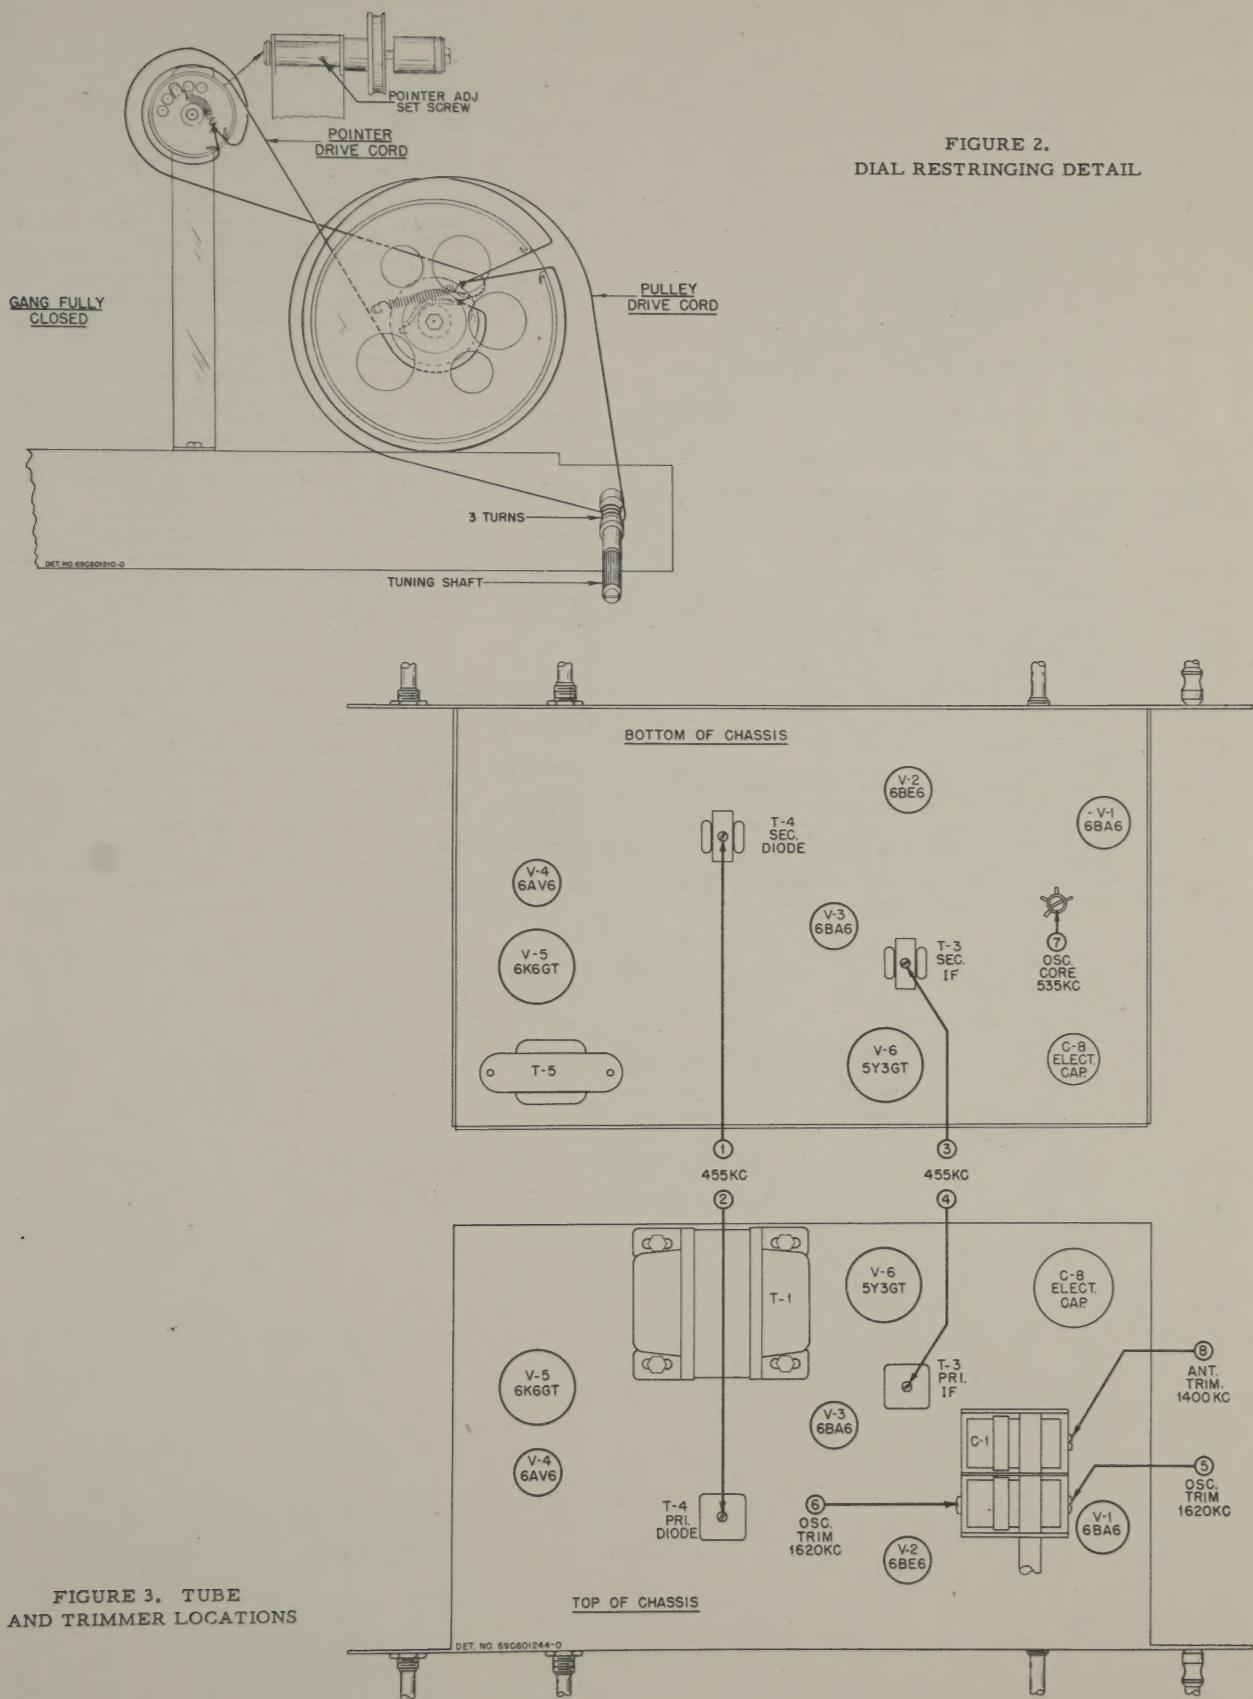

FIGURE 2.
5. From the back of the cabinet, loosen the pointer adjustment setscrew (see Figure 2), and pull the pointer and shaft assembly from the chassis. CAUTION: Do not remove the nut from the front of the pointer, as the detent ball and spring will fall out and may become lost.
2. From the back of the cabinet, loosen the pointer adjustment setscrew (see Figure 2). CAUTION: Do not remove the nut from the front of the pointer.